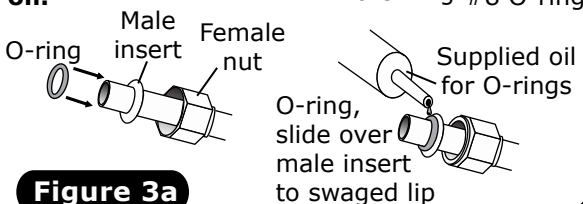
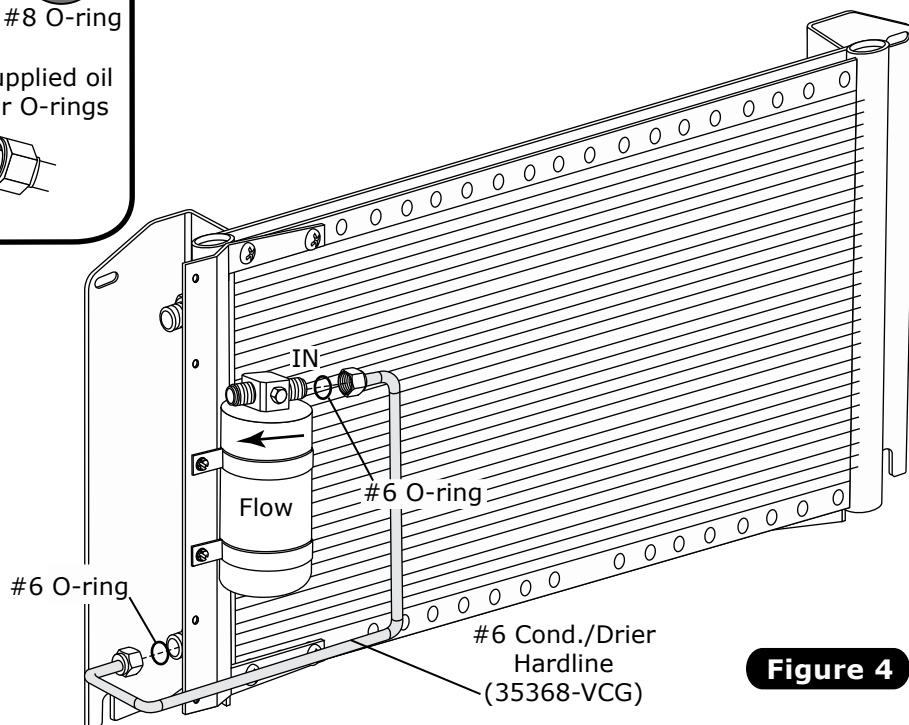

Figure 3a
Figure 4
2. Lubricate (2) #6 O-rings as shown in Figure 3a. Install the #6 condenser/drier hardline as shown in Figure 4, below. Tighten fitting connections as shown in Figure 3a, below.
2. Lubricate a #6 O-ring and #8 O-ring as shown in Figure 3a, Page 7. Install the #6 drier hardline and the #8 condenser hardline as shown in Figure 9, below. Tighten fitting connections as shown in Figure 3a, Page 7.